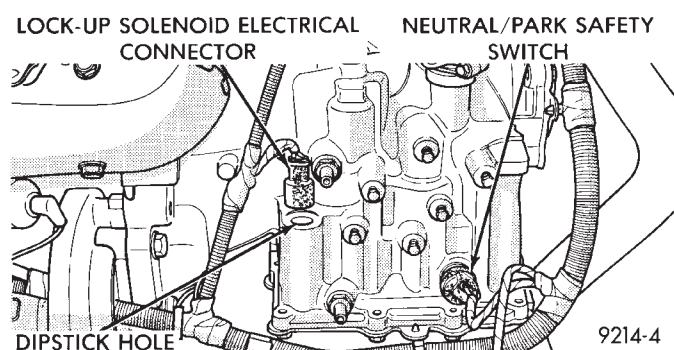

Fig. 16 Automatic Transmission Electrical Connections
(25) On automatic transmission equipped vehicles, verify the neutral safety switch electrical connector is attached to the switch (Fig. 16).
(26) On automatic transmission equipped vehicles, check the torque converter lockup solenoid electrical connection (Fig. 16).